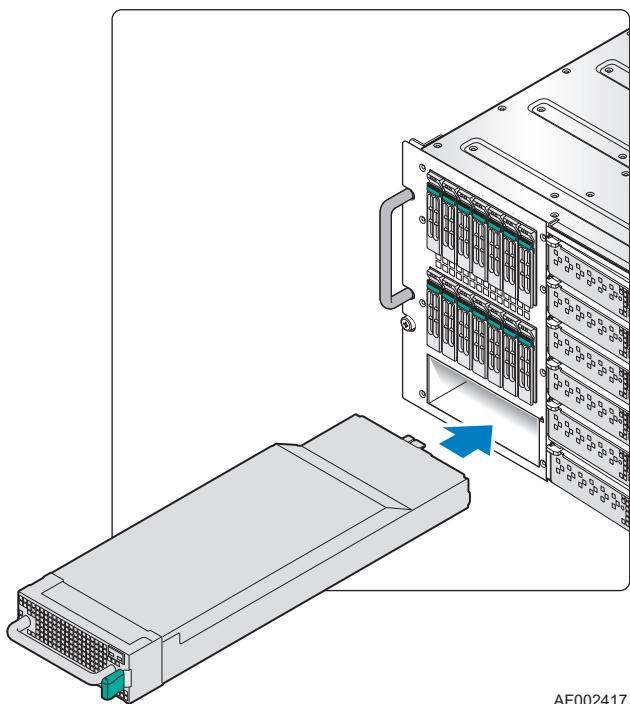

Figure 26. Installing an I/O Cooling Module
3. Press the I/O cooling module retention latch to release the I/O cooling module from the module bay (see letter “A” in Figure 26).
4. Slide the I/O cooling module out of the module bay (see letter “B” in Figure 26).
3. Slide the replacement I/O cooling module into the vacant module bay (see Figure 26) until the retention latch engages.